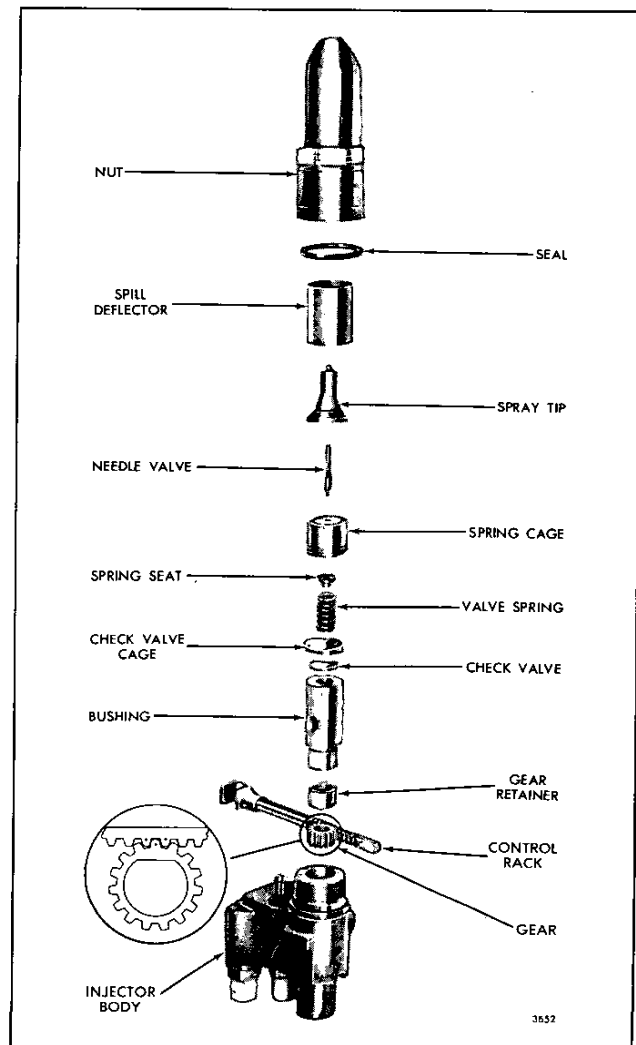

Fig. 29 - Injector Rack, Gear, Spray Tip and Valve Assembly Details and Relative Location of Parts
9. Refer to (Fig. 29) and note the marked teeth on the control rack and gear. Then, look into the body bore and move the rack until you can see the drill marks. Hold the rack in this position.
10. Place the gear in the injector body so that the marked tooth is engaged between the two marked teeth on the rack (Fig. 29).